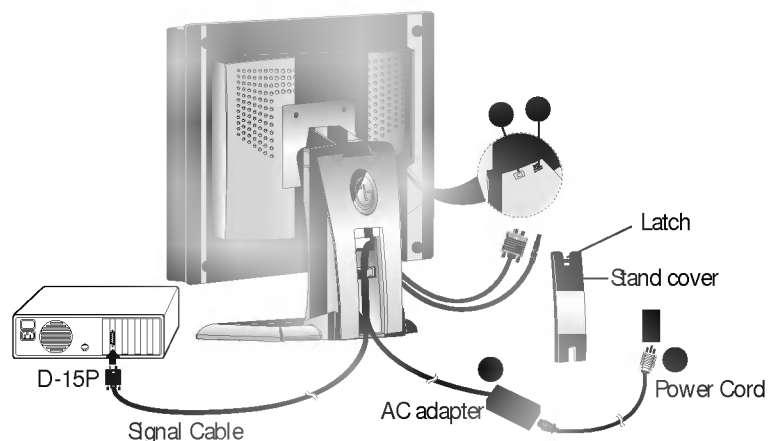

Figure 1.
4. Connect the end of monitor signal cable to the connector ● at the rear panel of your monitor through the slot and cable holder on Stand (see Figure 1). Connect the other end to the 15-pin connector on the rear panel of the computer and tighten the screws. Be sure the signal cable aligns with the 15-pin connector.